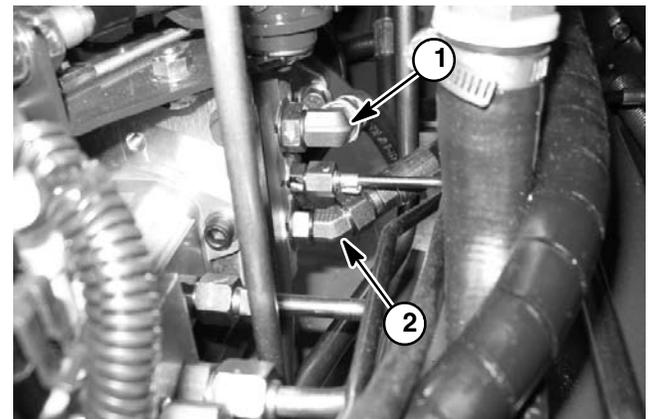

Figure 25
8. Clean hose fitting and disconnect hose from upper 90° fitting on traction pump (Fig. 25).